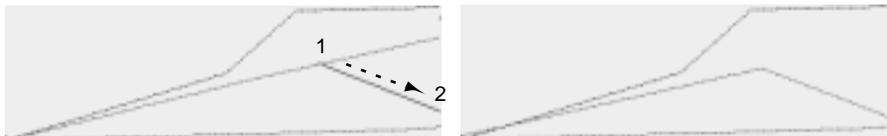

Figure 5-20. Re-drawing a color line.
1. Left-click anywhere on the color line, as shown in Figure 5-20.